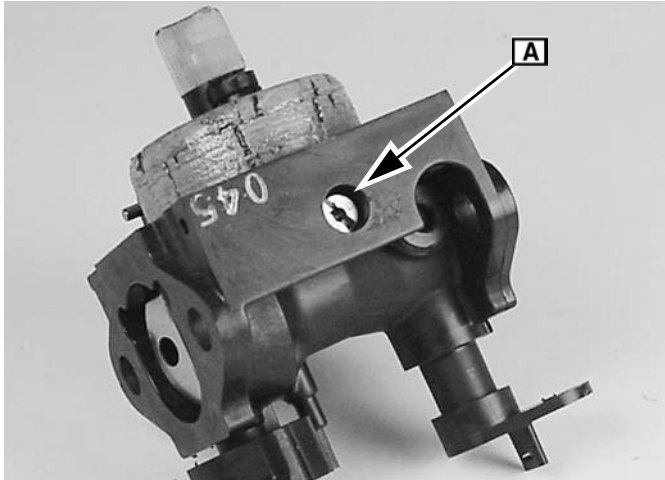

Fig. 42
6. Remove the decal on the side of the carburetor and unscrew the pilot jet **A** (Figure 42).